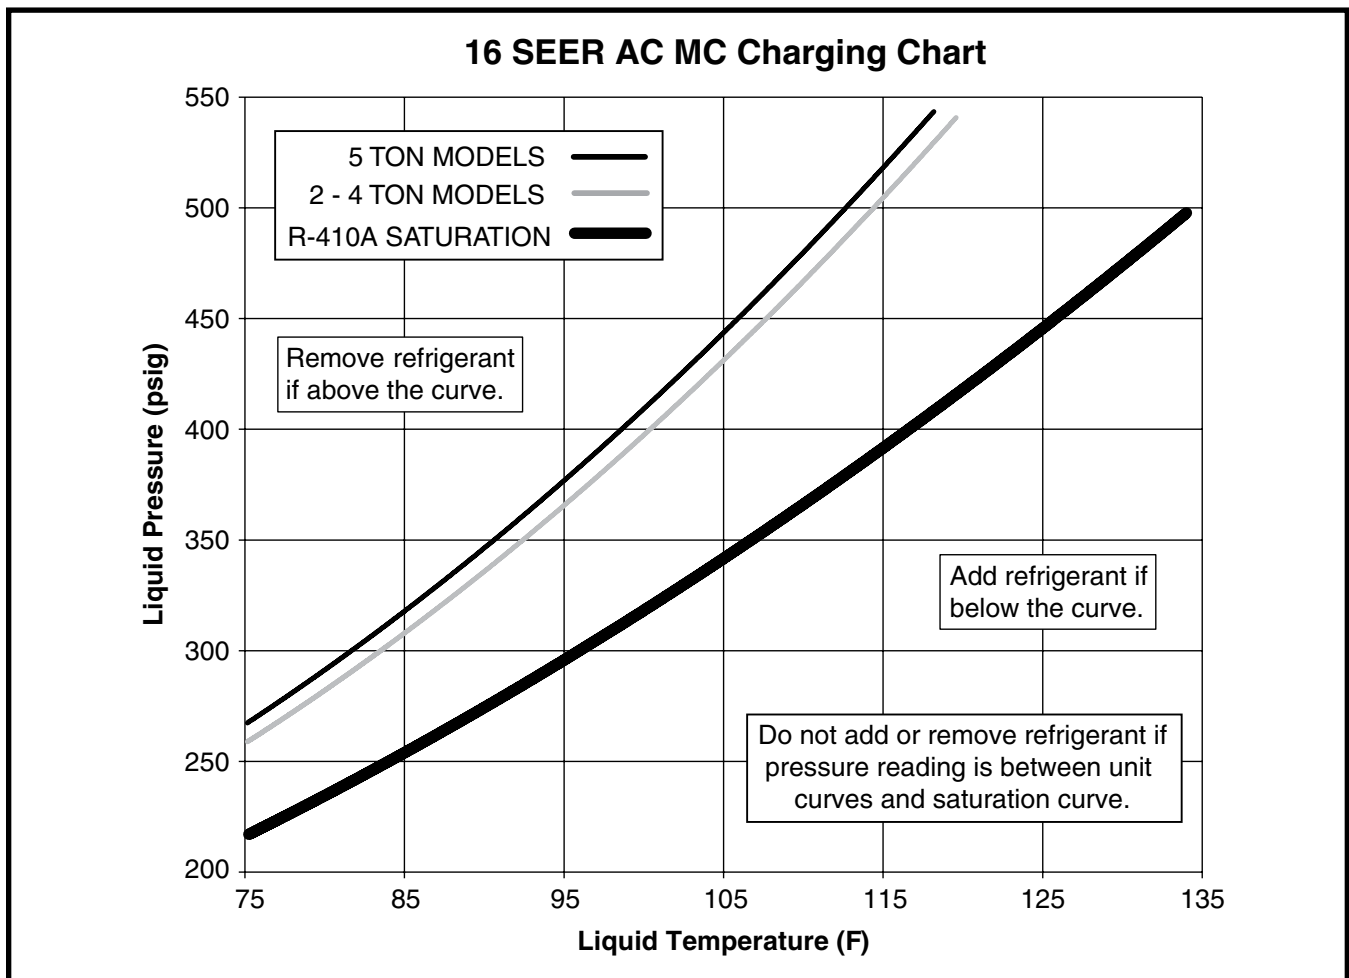

Figure 4. Charging Chart for 2-5 Ton Models
- Refrigerant charging charts are applicable only to matched assemblies and listed airflows for the indoor coil. Refer to Figure 4, \(page 8\) for correct system charging.
3. Determine the required liquid refrigerant pressure from the appropriate charging chart. See Figure 4, \(page 8\).
- Charging charts are valid for a variety of indoor, return air conditions and are most influenced by the outdoor ambient temperature, outdoor fan operation and the unit operating voltage. Before using these charts, make sure the unit is in a stable operating mode. As shown in the charging chart (Figure 4), the ideal system sub-cooling can vary over the range of operation. Reference the